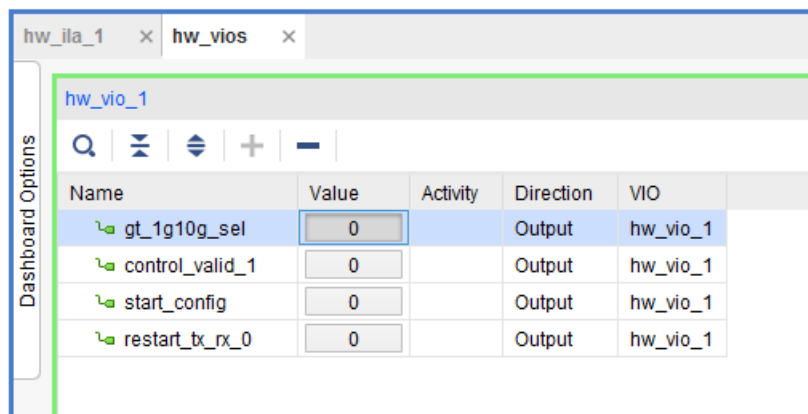

Figure 19: 10G - VIO Window
- Set the `gt_1g10g_sel` to 0 as shown in Figure 19.